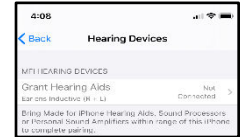

Figure 10
4. Once the hearing aids are discovered, the First Name + Hearing Aid and R+L\* will display (Figure 10).